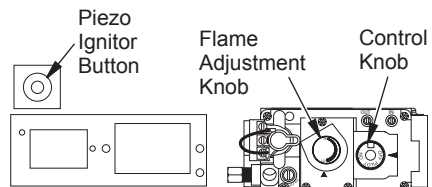

Figure 44 - Control Knob and Ignitor Button Location (Shown as Supplied - No Control Options)
3. Press in and turn control knob clockwise  to the OFF position (see Figure 44).
4. Wait five (5) minutes to clear out any gas. Then smell for gas, including near the floor. If you smell gas, **STOP!** Follow "B" in the safety information, column 1. If you don't smell gas, go to the next step.
5. Press in and turn control knob counter-clockwise  to the PILOT position. Press in control knob for five (5) seconds (see Figure 44).